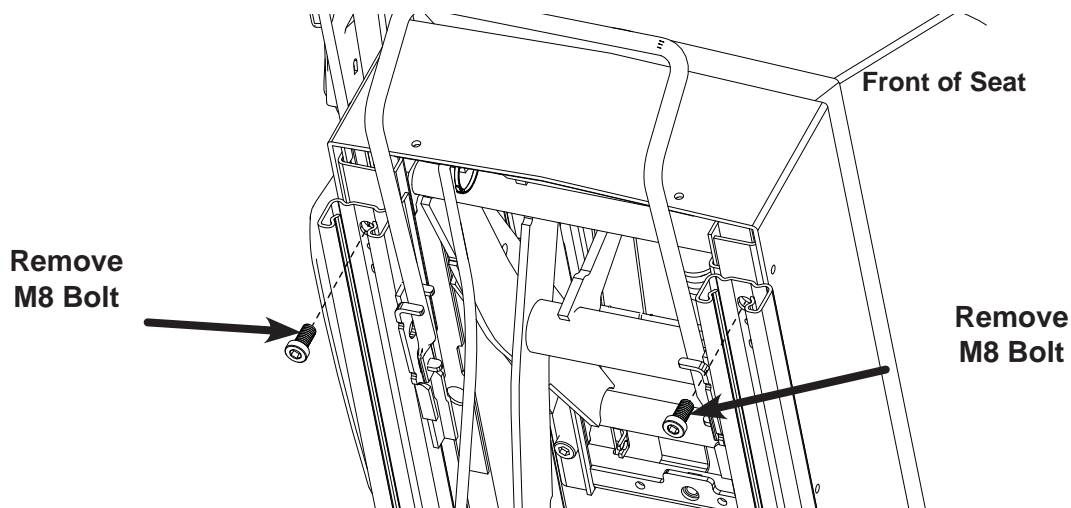

Fig. 10
13. Remove and discard (2) M8, Socket Head Bolt using 6mm Hex Bit and Ratchet See Fig. 10